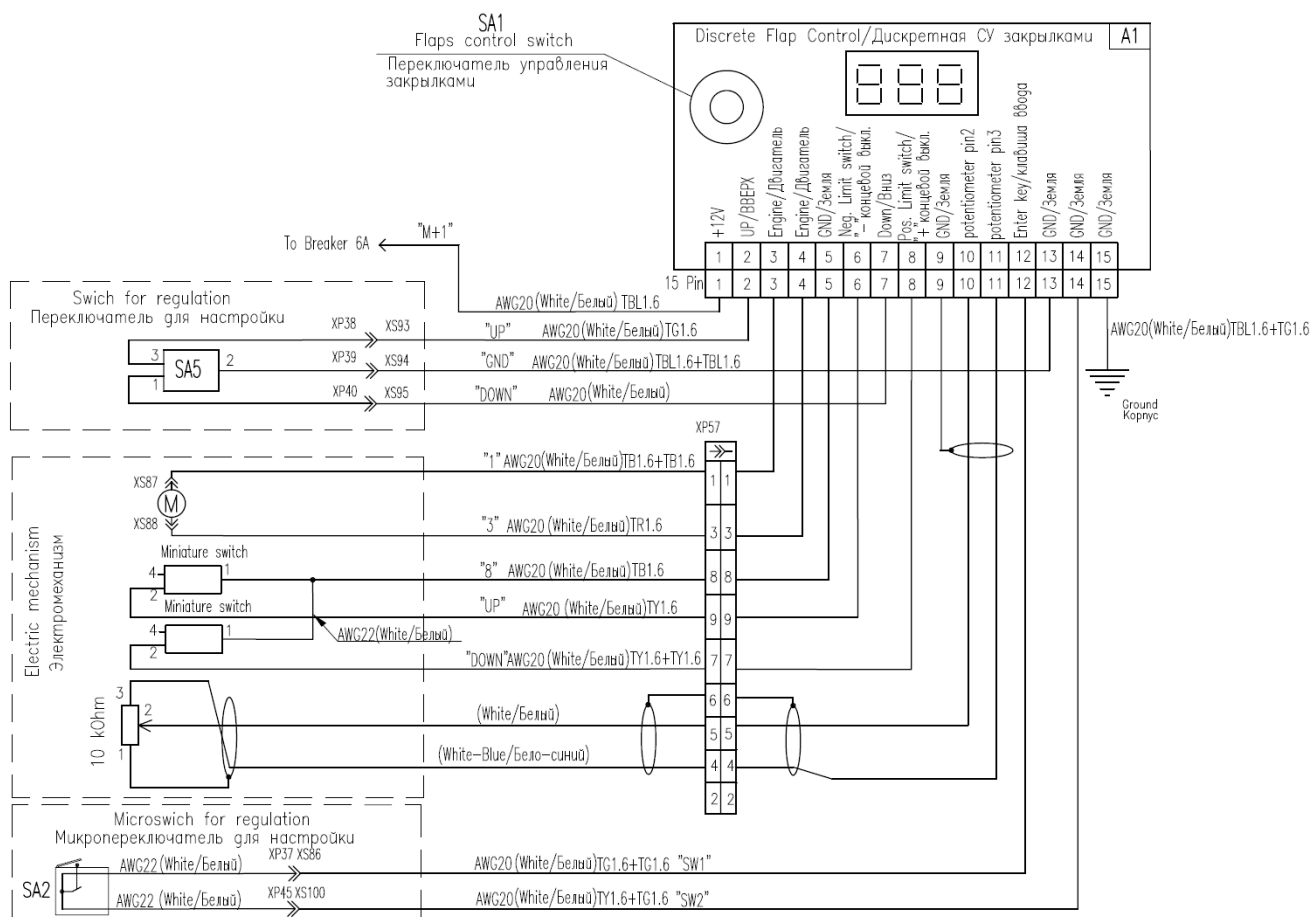

Fig.9
- 1) Connect auxiliary control switches SA2 and SA5 to corresponding connectors at the PCB for programming (Fig. 9).